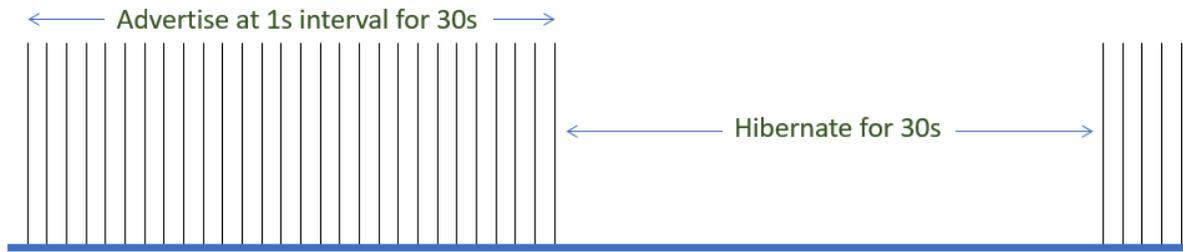

Figure 4 - Reference Beacon Power Profile
- Figure 4 - Reference Beacon Power Profile
- 5) Please use the SDK to compile and load the BLE_adv application using the power_profile reference beacon configuration. Figure 4 shows the reference beacon power profile. Details in the Configure the BLE_adv application section.
- Next, compile and load the BLE_adv application to use the beacon power profile configuration shown in Figure 4 .